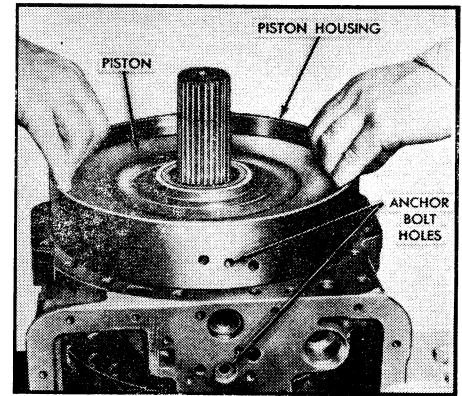

Fig. 9 Low and reverse clutch piston housing
27. Working through openings in transmission housing, remove low range and reverse clutch piston housing, Fig. 9.
16. Install low and reverse clutch piston housing, aligning tapped hole in piston housing with corresponding anchor bolt hole in bottom of transmission case, Fig. 9. *Do not install anchor bolt at this time.*